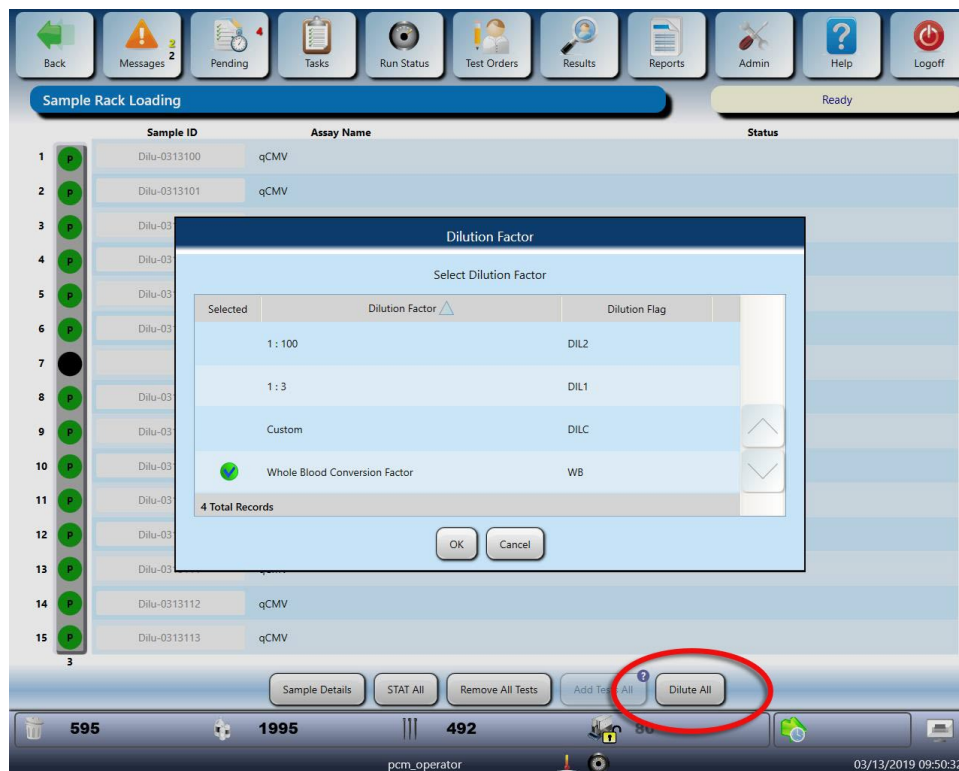

Figure 5. The Dilution Factor Window in the Sample Rack Loading Screen
- f. Discard the reconstitution collar and glass vial (Figure 5, Step 8).